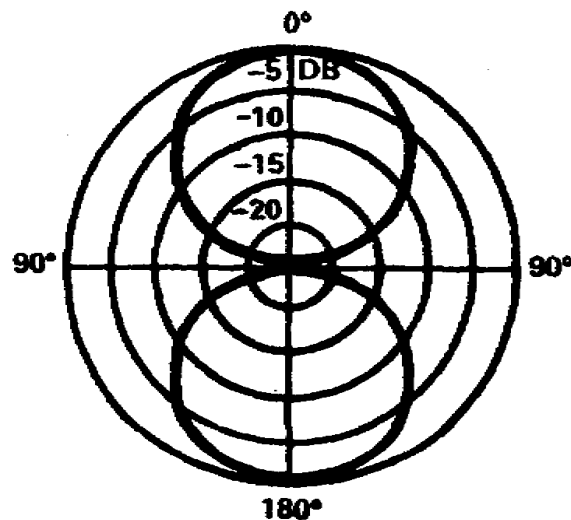

Figure 2-22. Bidirectional pickup pattern
(2) The Bidirectional or Figure-eight Pattern. Microphones with this configuration accept sound best at the 0 and 180° direction points with least acceptance at the 90° points (fig 2-22). They have varying degrees of acceptance at the in-between points on the graph. This pattern varies as the size of the figure eight is changed in relationship to each other. If either the upper or lower lobe is made larger or smaller, then the pattern size changes.